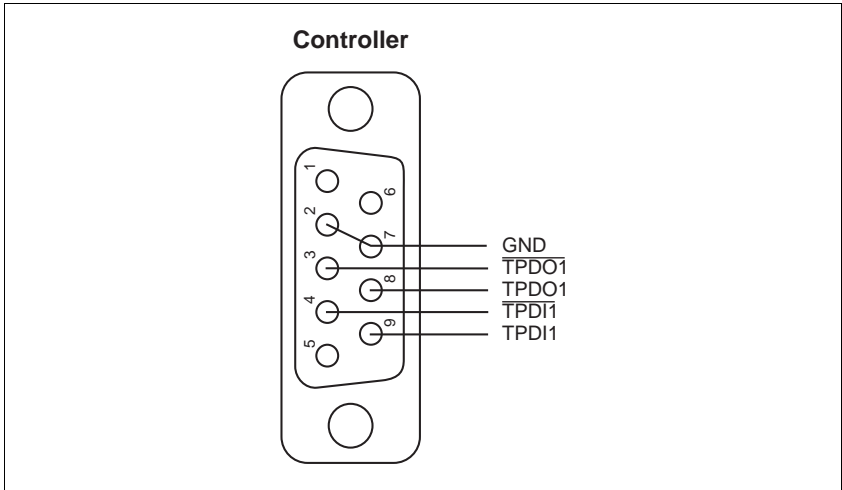

Fig. 3 Interface connector - device end
1. Solder the litz wires to the connector as illustrated in fig. 3 and 4.